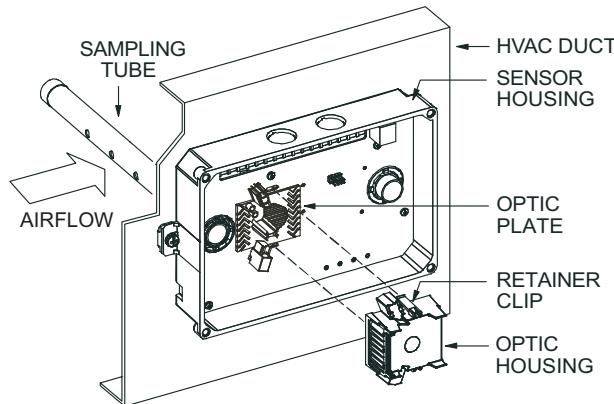

Fig. 16 — Sensor Cleaning Diagram
1. Disconnect power from the duct detector then remove the sensor's cover (see Fig. 16).